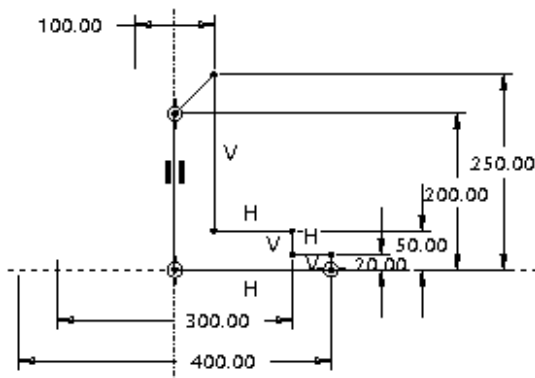

Figure 3-54 Sketch after modifying the dimensions
3. Clear the **Regenerate** check box and then modify the values of the dimensions, as shown in Figure 3-54. If you clear this check box, then any modification